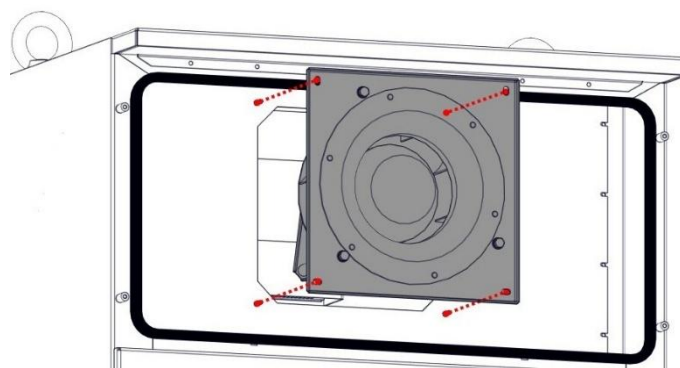

Figure 39 – Uninstall main fan.
3. Uninstall main fan, as shown on the figure 39.